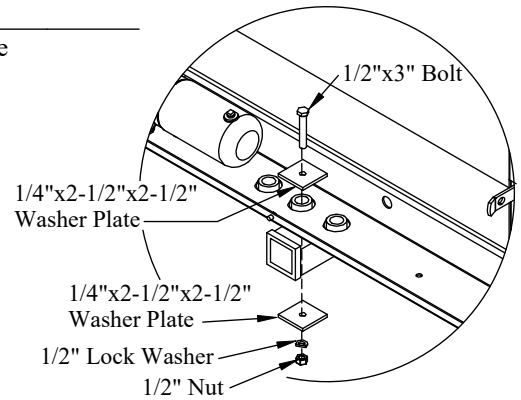

Figure 23: Lower bracket support (Class 4 hitch).
1. **Assemble** the supplied hardware through the center hole in the bottom of the liftgate mainframe and the center hole in the factory hitch plate on the truck (Figure 23).